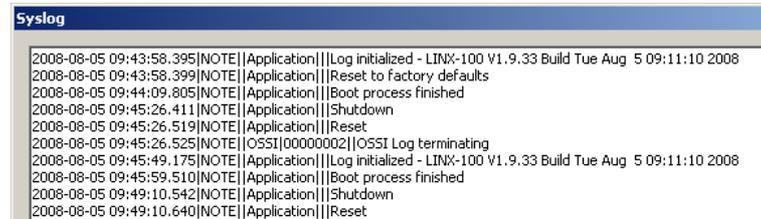

Figure 88: System log window.
3. When the upload is finished, click on **Show System Log**. The system log window appears as shown in Figure 88.